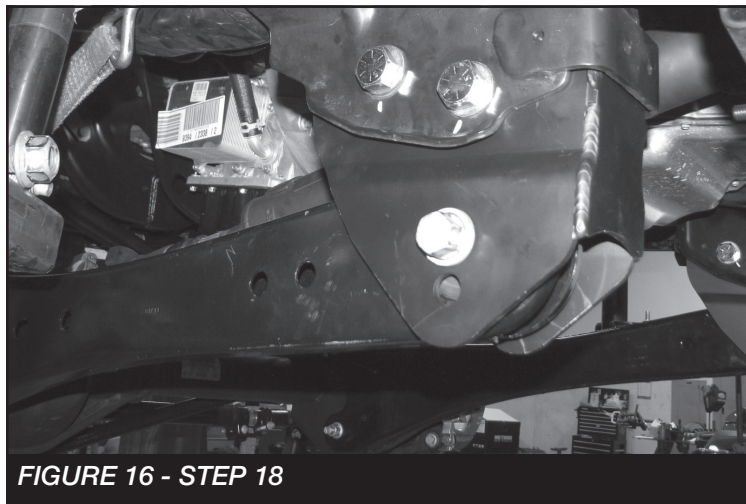

FIGURE 16 - STEP 18
18. Reinstall the radius arms into the new drop down bracket using the factory hardware. Attach to the axle first then to the new drop bracket using the upper most hole. Torque to 200 ft-lbs. **SEE FIGURE 16**